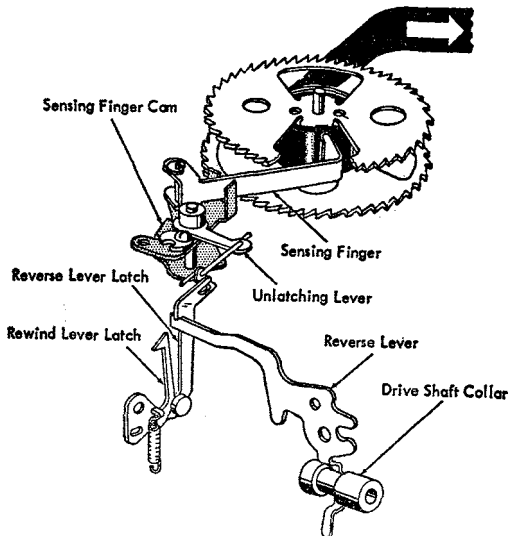

Figure 37. Ribbon Reverse, Left Spool Empty
Ribbon reverse takes place as follows: As the left ribbon spool empties the sensing finger engages a notch in the spool, rotating the sensing finger cam (Figure 37). This forces the unlatching lever to the rear and develops a pull on the wire link connected to the reverse-lever latch, unlatching the reverse lever. Unlatching the reverse lever allows it to rotate clockwise about its mounting and position the
finger is centered between the ribbon-spool flanges (Figure 37).
17. LEFT REVERSING ECCENTRIC. With the reverse lever latched and the left sensing finger resting against the ribbon spool hub, position the eccentric washer to just contact the unlatching lever (Figure 37).